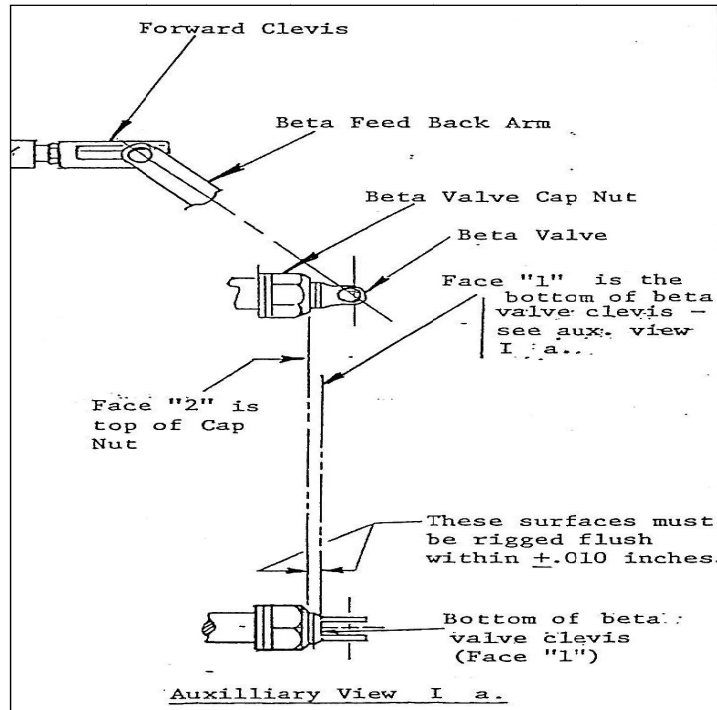

Figure 03
2. Ensure that the propeller is feathered, the governor reset arm is on the maximum stop, and the Beta valve plunger is hold with base of slot in clevis flush with the outer rim of the valve stop nut. (FACE "1" of the beta valve lines up with FACE "2" within +/- 0.010 inches (0.25 mm)). See Figure 03.